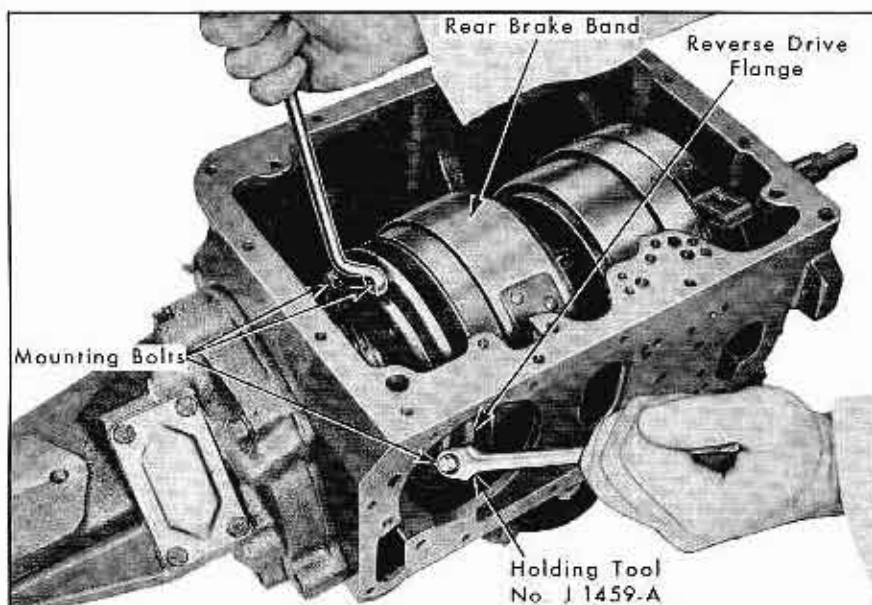

Fig. 14-27 Removing Reverse Drive Flange Bolts
2. Remove six reverse sun gear and drive flange attaching screws (1/2"). Drive flange can be held from turning by using Drum Holder No. J-1459. Fig. 14-27.